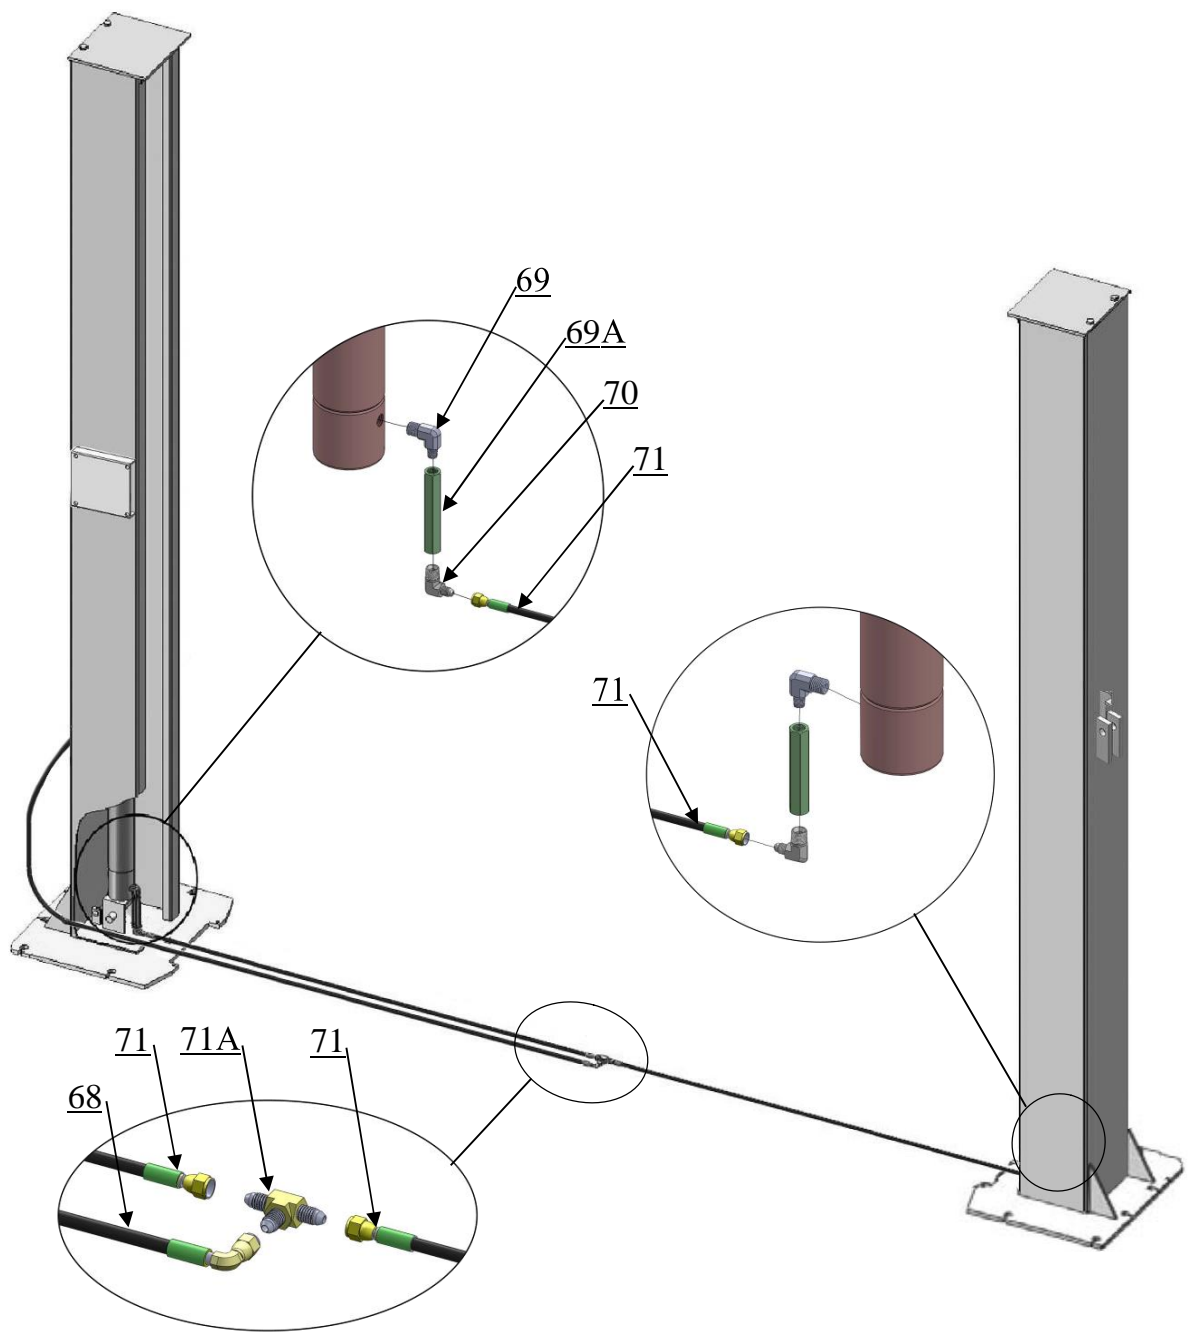

Fig. 19
J. Assembly oil hose assy. (See Fig. 19).